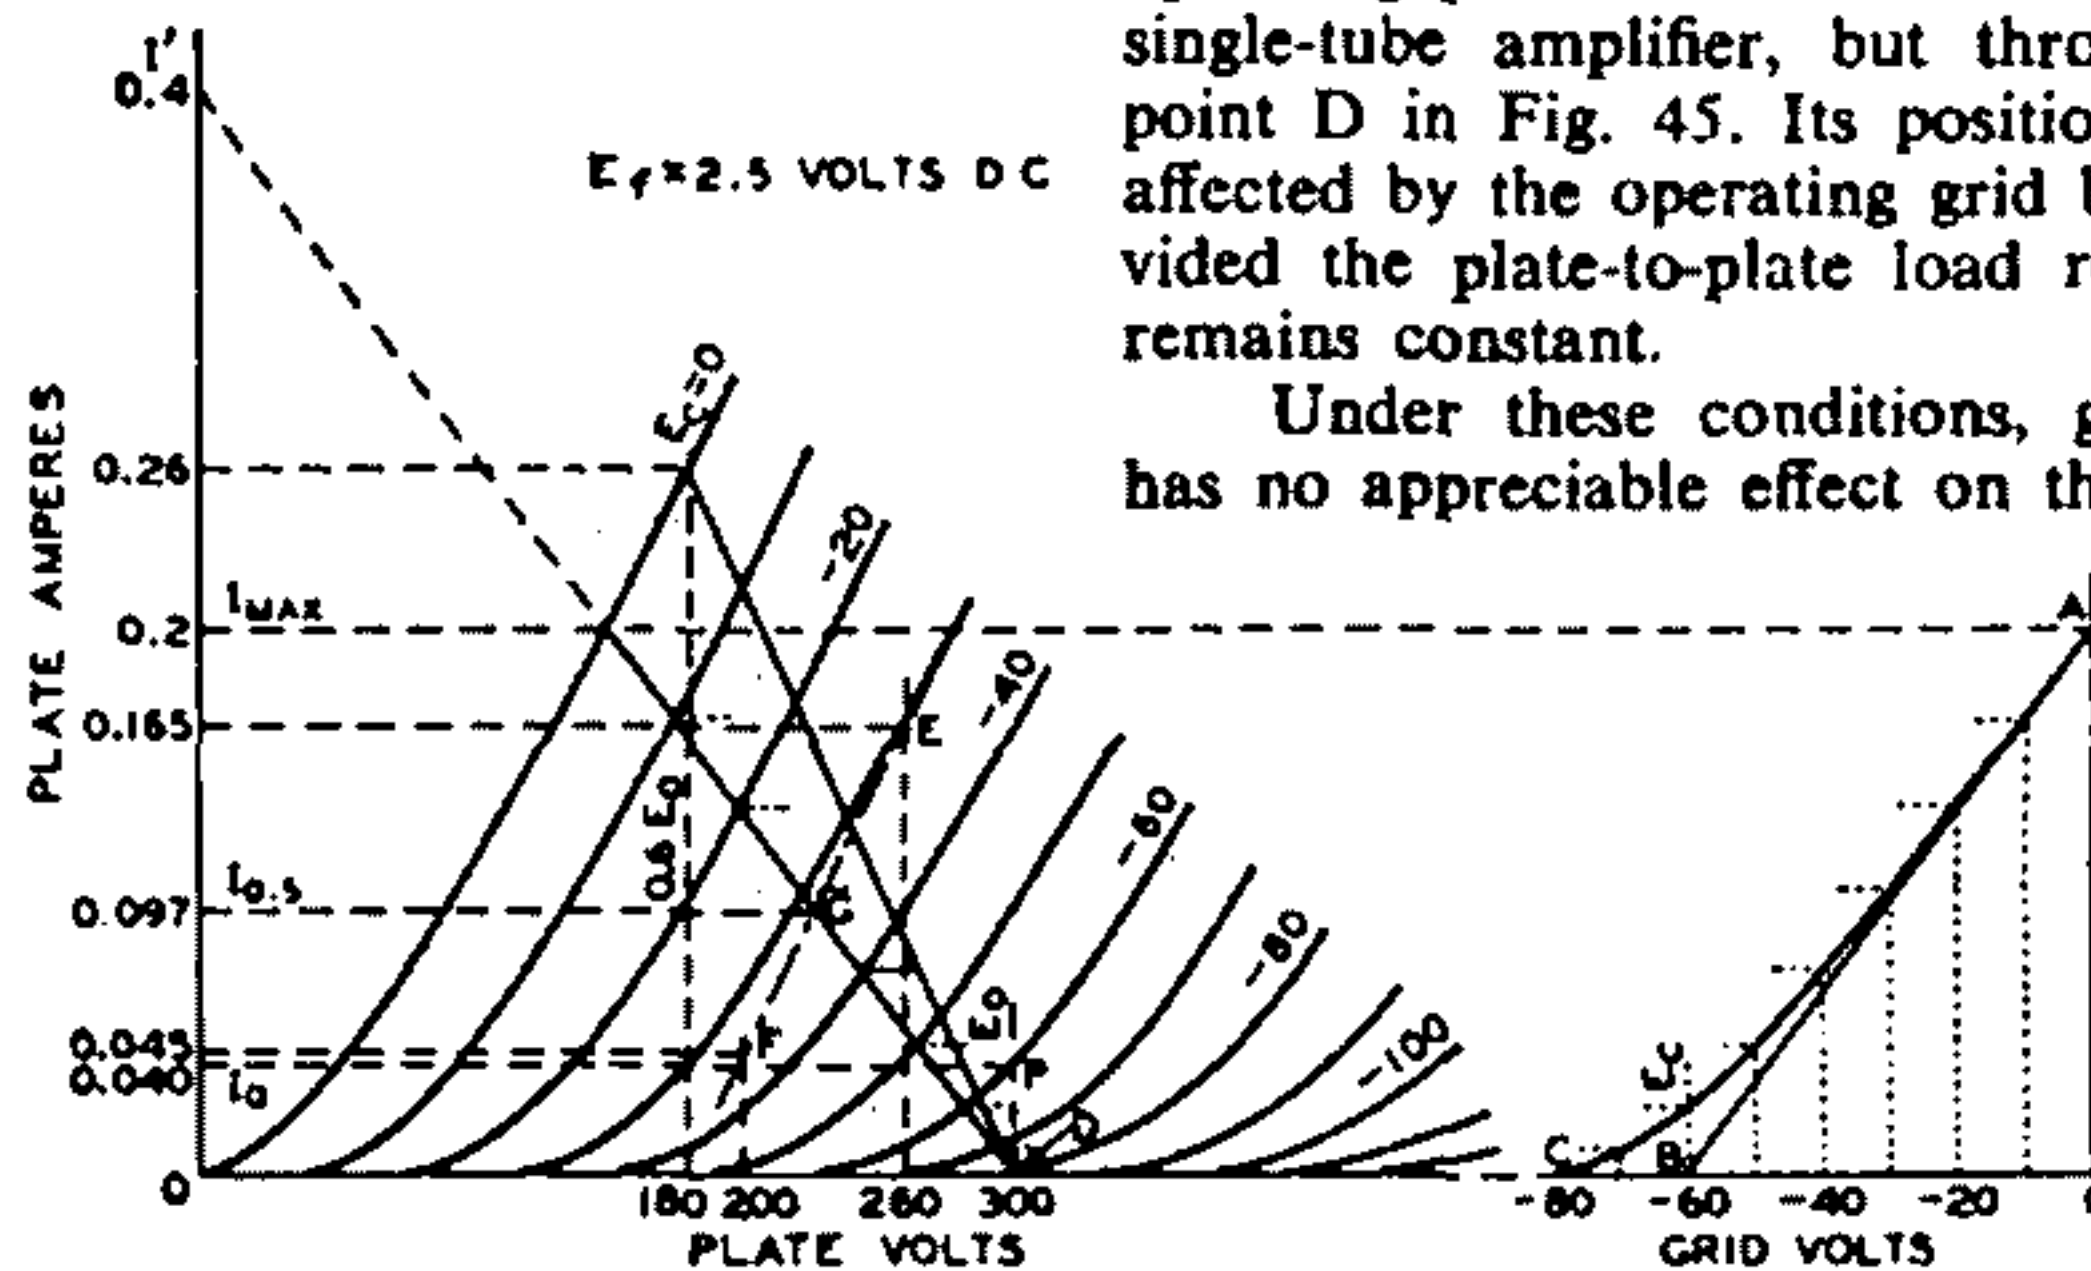

Fig. 45—Graphic calculations for class AB1 amplifier using a power triode. Fig. 46—Instantaneous curve for class AB1 amplifier.
In class AB1 push-pull amplifier service using triodes, the operating conditions may be determined graphically by means of the plate family if  $E_c$ , the desired operating plate voltage, is given. In this service, the dynamic load line does not pass through the operating point P as in the case of the single-tube amplifier, but through the point D in Fig. 45. Its position is not affected by the operating grid bias provided the plate-to-plate load resistance remains constant.
In general, for any load line through point D, Fig. 45, the plate-to-plate load resistance in ohms of a push-pull amplifier is  $R_{pp} = 4E_o/I'$ , where  $I'$  is the plate-current value in amperes at which the load line as projected intersects the plate-current axis, and  $E_o$  is in volts. This formula is another form of the one given under push-pull class A amplifiers,  $R_{pp} = 4(E_o - 0.6E_o)/I_{max}$ , but is more general. Power output  $= (I_{max}/\sqrt{2})^2 \times R_{pp}/4$ , where  $I_{max}$  is the peak plate current at zero grid volts for the load chosen. This formula simplified is  $(I_{max})^2 \times R_{pp}/8$ . The maximum-signal average plate current is  $2I_{max}/\pi$  or  $0.636 I_{max}$ ; the maximum-signal average power input is  $0.636 I_{max} \times E_o$ .
**Example:** Fig. 45 illustrates the application of this method to a pair of power triodes operated at  $E_o = 300$  volts. Each tube has a plate-dissipation rating of 15 watts. The method is to
the plate family and the load line. Fig. 46 is a curve of instantaneous values of plate current and dc grid-bias voltages taken from Fig. 45. Values of grid bias are read from each of the grid-bias curves of Fig. 45 along the load line and are transferred to Fig. 46 to produce the curved line from A to C. A tangent to this curve, starting at A, is drawn to intersect the grid-voltage abscissa. The point of intersection, B, is the operating grid bias for fixed-bias operation. In the example, the bias is  $-60$  volts. Refer back to the plate family at the operating conditions of plate volts = 300 and grid bias =  $-60$  volts; the zero-signal plate current per tube is seen to be 0.04 ampere.
As in the case of the push-pull class A amplifier, the second-harmonic distortion in a class AB1 amplifier using triodes is very small and is largely canceled by virtue of the push-pull connection. Third-harmonic distortion, however, which may be larger than permissible, can be found by means of composite characteristic curves. A complete family of curves can be plotted, but for the present purpose only the one corresponding to a grid bias of one-half the peak grid-voltage swing is needed. In the example, the peak grid voltage per tube is 60 volts, and the half value is 30 volts. The composite curve, since it is nearly a straight line, can be constructed with only two points (see Fig. 45). These two points are obtained from deviations above and below the operating grid and plate voltages.
These steps provide points at 260 volts and 0.165 ampere (E), and at 200 volts and 0.045 ampere (F). A straight line through these points is the composite curve for a bias of  $-30$  volts, shown as a long-short dash line in Fig. 45. At the intersection of the composite curve and the load line, G, the instantaneous composite plate current at the point of one-half the peak signal swing is determined. This current value, designated  $I_{0.5}$  and the peak plate current,  $I_{max}$ , are used in the following formula to find the peak value of the third-harmonic component of plate current.